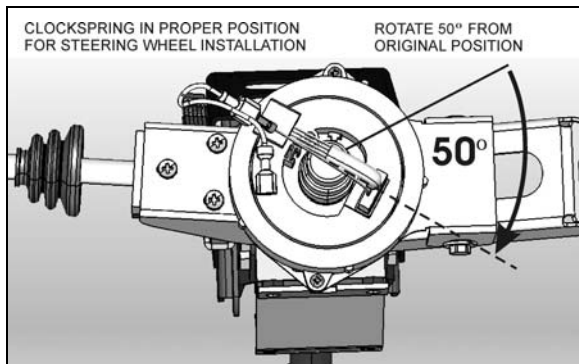

FIGURE 14: PROPER CLOCKSPRING POSITION
5. Break the paper seal and rotate the center part of the clockspring about 50° clockwise (Fig. 14). This step is necessary for the installation of the steering wheel.